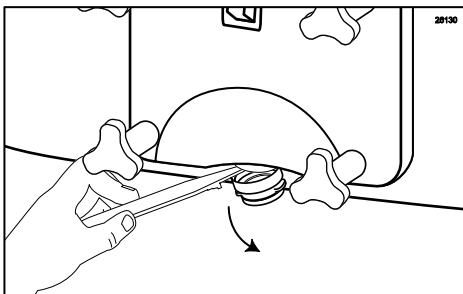

Figure 83
2. Remove the Spout Adapter from the freezer head. Since the fitting is very tight, you may need to use a small tool to pry the Adapter from the door spout. (See Figure 83.)